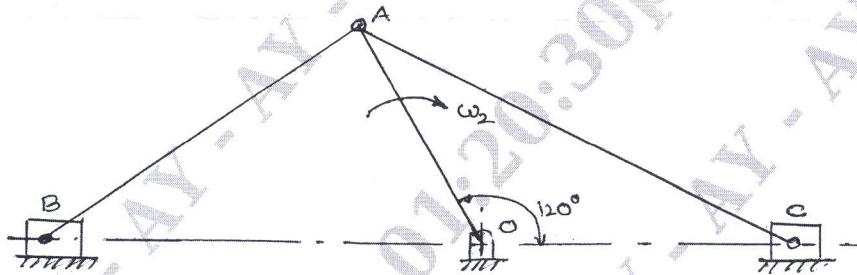

Fig.Q3
- 3 A double slider crank mechanism is shown in Fig.Q3. The crank OA rotates at a constant angular velocity of 10 rad/sec. The links OA, AB and AC are 100 mm, 200 mm and 200 mm long respectively. By drawing the acceleration and velocity polygon, determine: